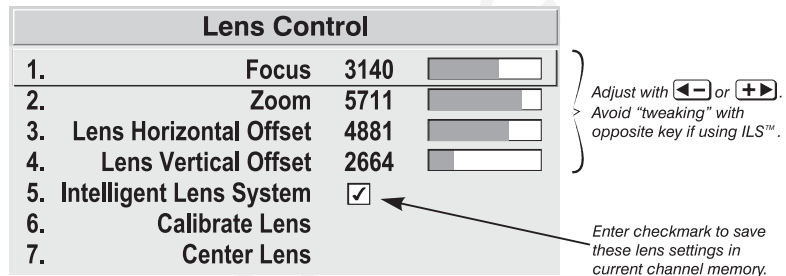

Figure 2.26. Lens Settings and the ILS™
- Try to release the **←** or **→** key *before* reaching a desired lens setting, then continue as necessary with small incremental adjustments *in the same direction*. If you “overshoot” slightly, do not reverse and “tweak” into place unless you have overshoot *beyond* the backlash zone (which can vary from 10 to 600 increments, depending on the function). Otherwise, the ILS™ function will not recognize the final “tweaked” value when you return to this channel, and lens performance will appear inaccurate. In general, use small “incremental” fine-tuning only if the direction of lens movement has not changed during an adjustment. See Figure 2.26.